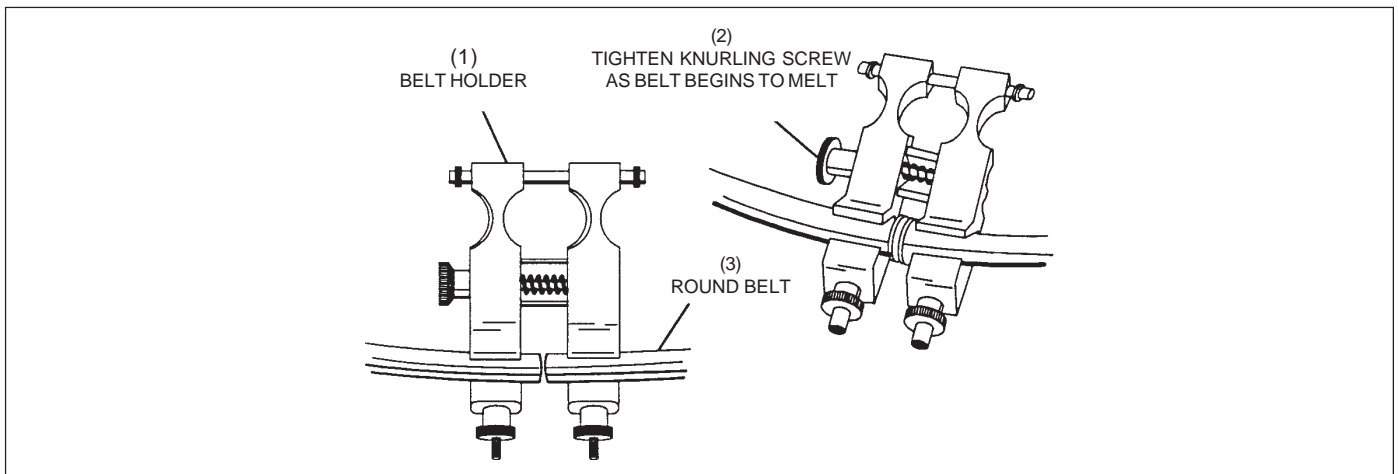

Figure 8-5. Welding Round Belts.
4. Place each belt end in the belt holder so they are *slightly* apart. Refer to *Figure 8-5*.
6. When a pad of melted polycord has formed, withdraw the soldering iron, and lightly tighten the knurling screws of the holder to bring the ends of the belt together. Refer to *Figure 8-5*.